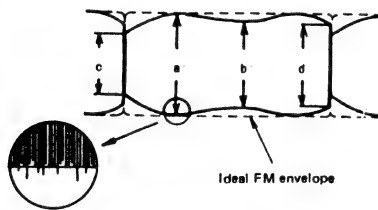

Fig. 2-38 FM waveform (max. output)
4. Observing the oscilloscope, adjust the flat portion of the maximum output level ('a' in Fig. 2-38) becomes 4 scale divisions.